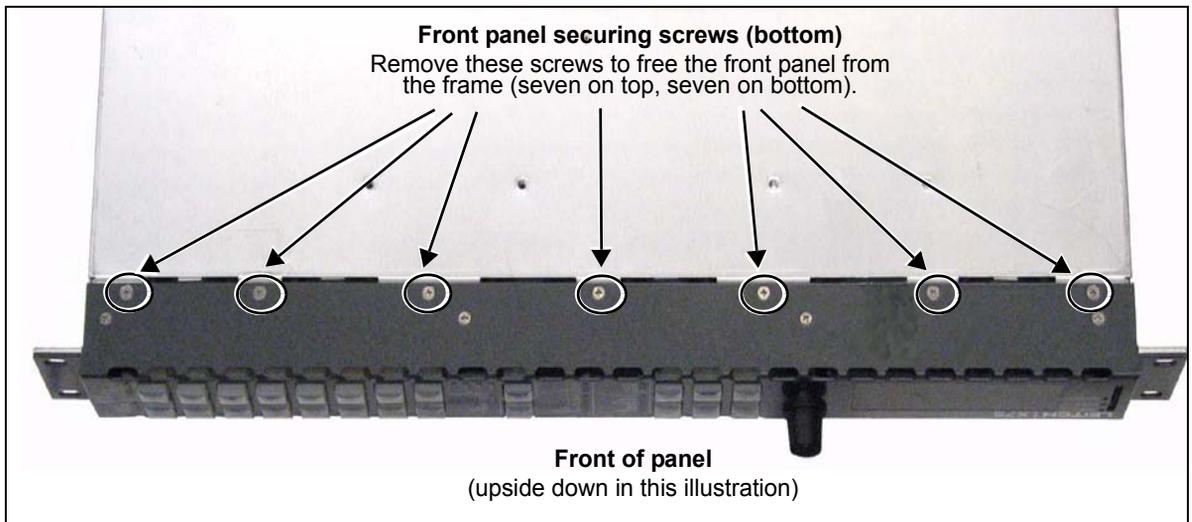

Figure C-53. Freeing the Front Panel from the Frame
2. Remove the seven screws along the top and bottom of the front panel that hold the control panel to the frame. (See Figure C-53.)